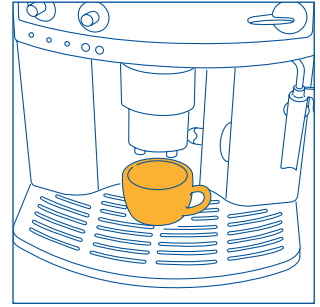
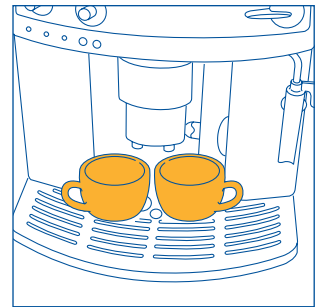
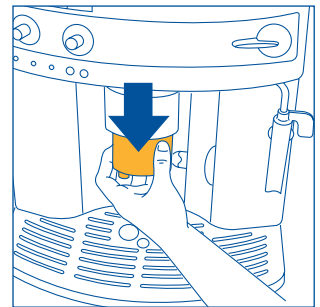

Fig. 9
Fig. 10
Fig. 11
- 4) Place one cup under the coffee spout to make 1 coffee (Fig. 9) or 2 cups for 2 coffees (Fig. 10). For a creamy coffee, lower the coffee spout to bring them as close to the cups as possible (Fig. 11).